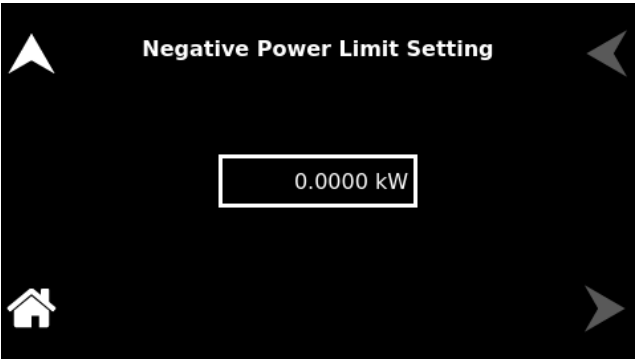

Figure 10-40. Negative Power Limit
**Neg. Power Limit** Users can set a negative power limit value, which functions as a trip limit (CC and CC/CV), or it regulates (CC/CP) the output upon reaching the Neg. Power Limit. Refer to Figure 10-40.